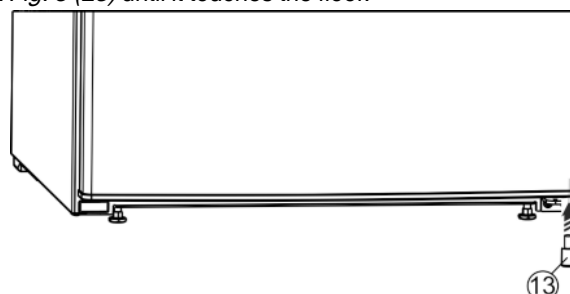

Fig. 10
- Insert the spacer Fig. 10 (13) back under the right-hand side of the door, as this is important for the stability of the appliance.